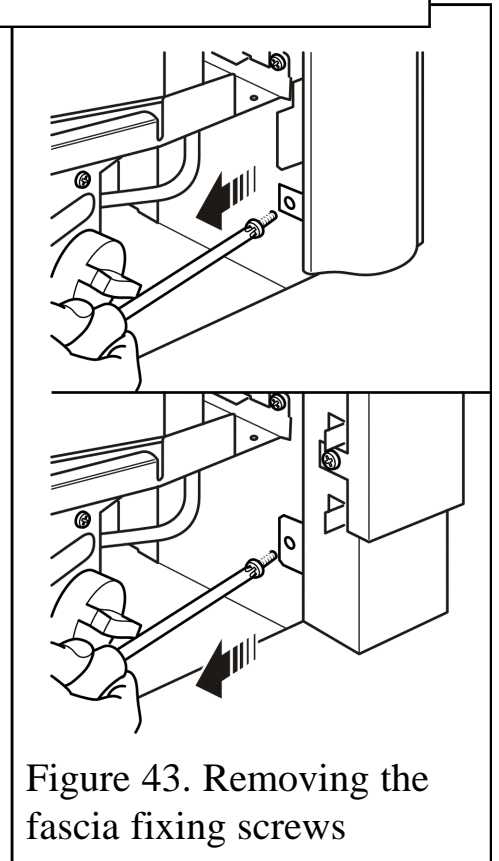

Figure 43. Removing the fascia fixing screws
2. Remove the two screws securing the bottom of the fascia to the sides of the hotbox (See figure 43).